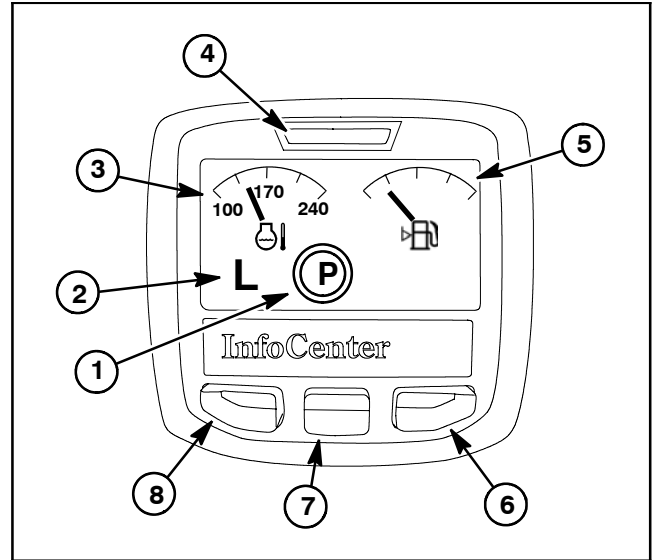

Figure 10
The two (2) InfoCenter main information screens (Figs. 10 and 11) are displayed after the initial splash screen has been displayed for several seconds. During normal machine operation, the main information screens provide machine information for the operator. Toggling between the main information screens is done by pressing the right button on the InfoCenter.